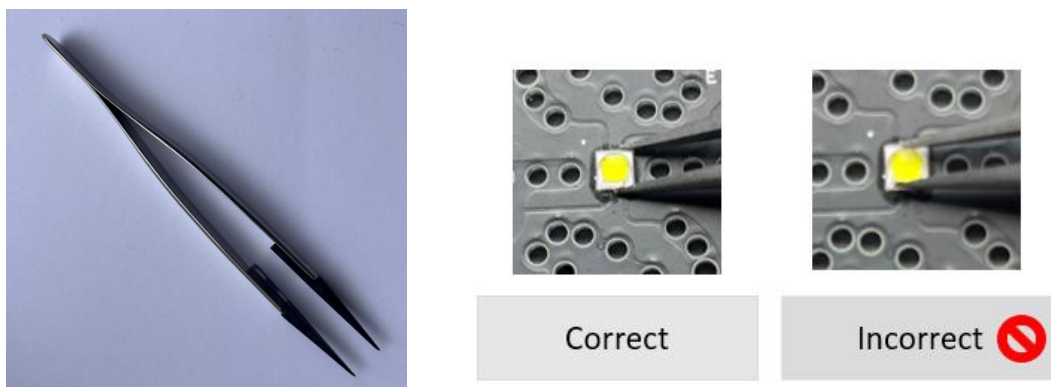

Figure 11. Rubber Tweezers. Never pick up by dome or touch the Light Emitting Surface (LES) with tweezers.
- **Choose plastic/rubberized tweezers.** Use tweezers made of anti-static plastic or rubberized materials (Figure 11. . These materials have a softer grip for the LED and are less likely to cause damage to the LED during handling. It is crucial to ensure that the tweezers only grip the exterior of the lens frame to avoid any direct contact with the LED surface (Figure 11, right).